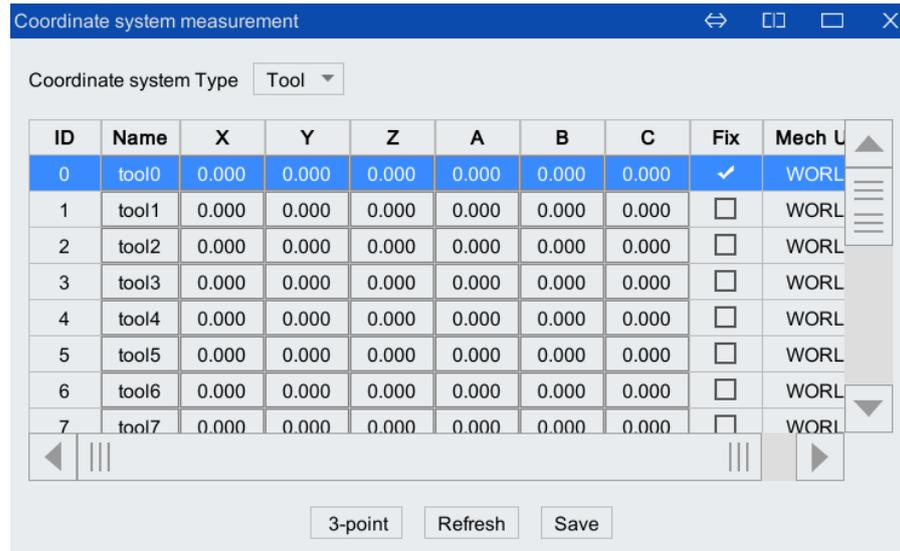

Figure 5-85 "Fixed Coordinate System" interface
Step7.Assuming that the name of the "fixed tool coordinate system" to be calibrated is tool0, select the row where tool0 is located, check the "fixed" option in the row where tool0 is located, and then display ✓, as shown in Figure 5-85.